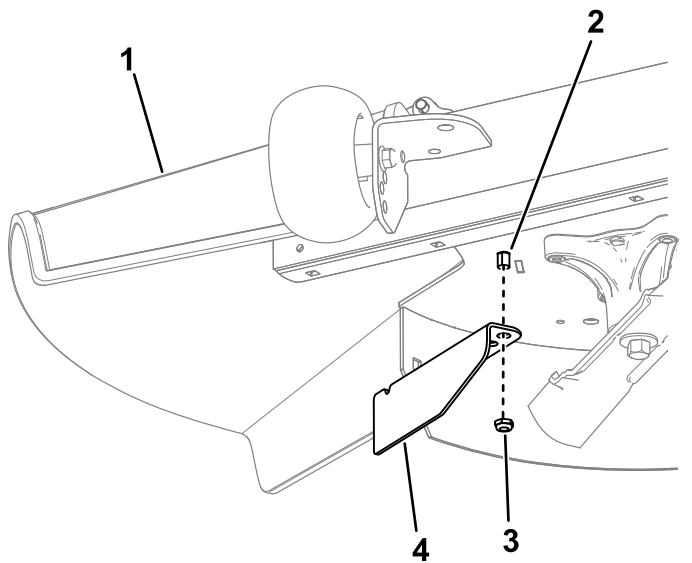

Figure 15
10. Remove the nut from the grass deflector rod under the mower deck (Figure 15).
11. Use the nut to install the cutoff baffle to the grass deflector rod, using the outer hole in the baffle (Figure 15).